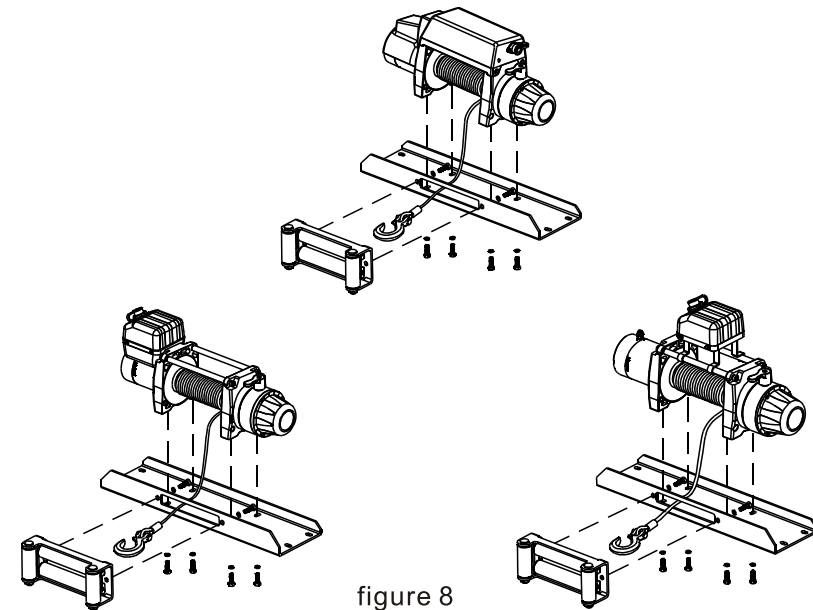

figure 8
- ◇ Use bolt to install the winch to a base plate (See figure 8).